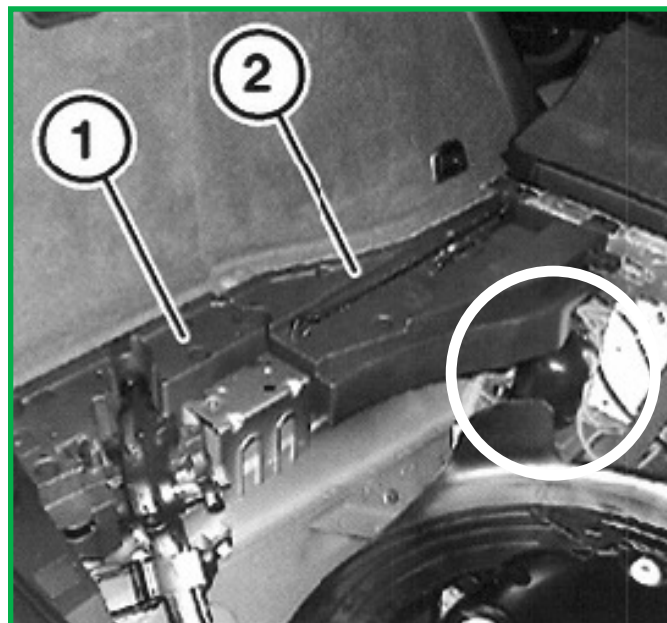

FIGURE 17
4. Remove support for side members (1) and (2) to gain access to air reservoir. (Figure 17)